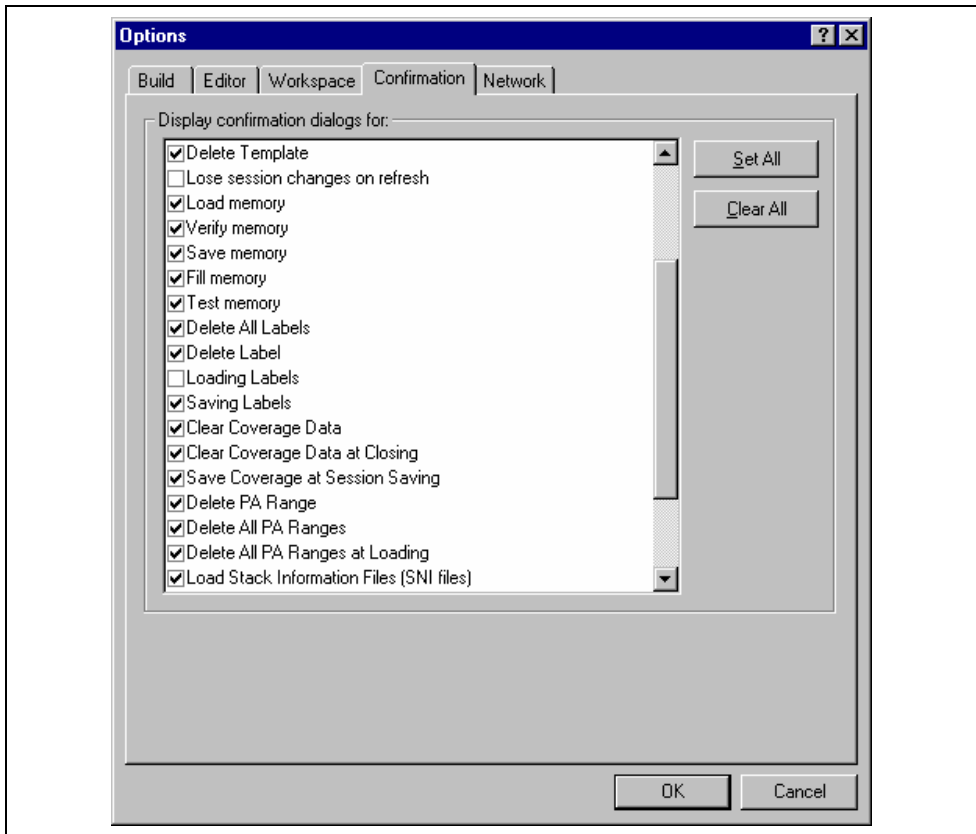

Figure 4.52 Options Dialog Box
- The [Load Stack Information Files (SNI files)] check box is checked in the [Confirmation] sheet of the [Options] dialog box (figure 4.52) that can be opened by choosing [Tools->Options] from the main menu.